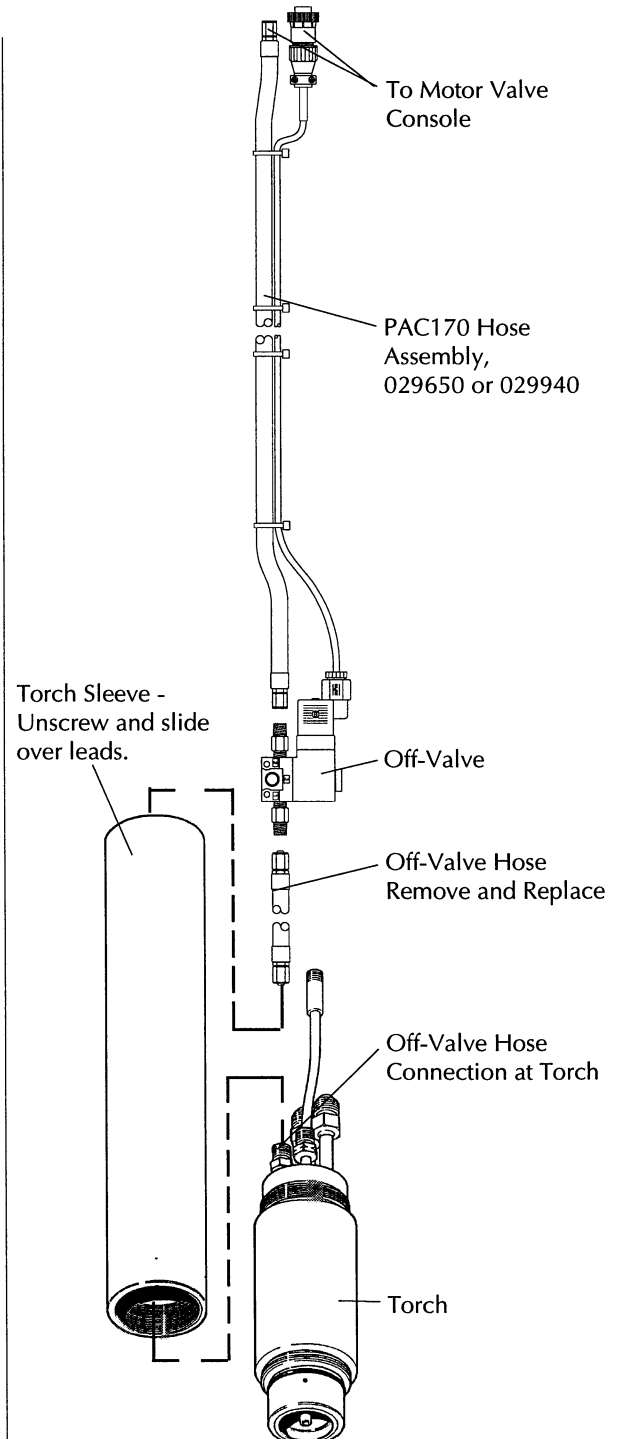

Figure 1 Off-Valve Hose Connection to Torch
3. Using 7/16" (11 mm) wrenches, remove plasma off-valve hose from off valve - Fig.1.